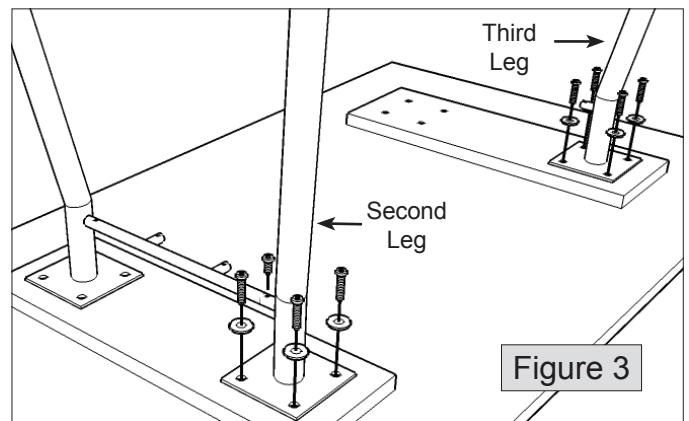

Figure 3
5. Connect second leg to cross tube and tabletop, and also connect third leg to tabletop, as shown in figure 3. Keep all bolts slightly loose for now.